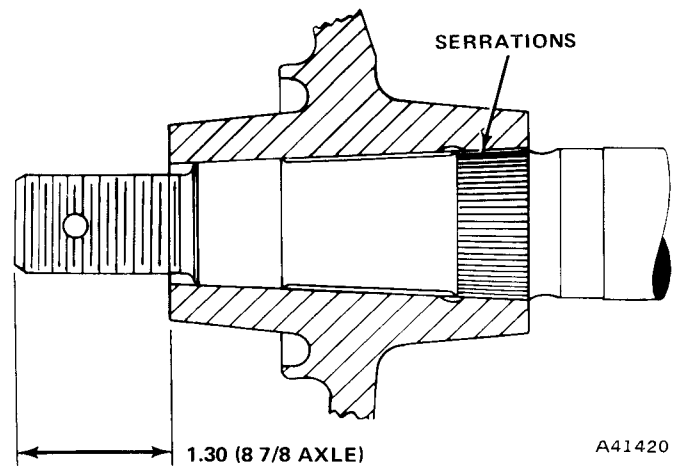

Fig. 10-18 Replacement Hub Installation Measurement (In Inches)
- (1) Align keyway in hub with axle shaft key.
- (2) Slide hub onto axle shaft as far as possible.
- (3) Install two well-lubricated thrust washers and axle shaft nut.
- (4) Install drum, drum retaining screws, and road wheel.
- (5) Lower vehicle onto wheels. Tighten axle shaft nut until distance from hub outer face to axle shaft outer end is 1.30 inches (fig. 10-18).
- (6) Remove axle shaft nut and one thrust washer.
- (7) Install axle shaft nut and tighten to 250 foot-pounds torque. If cotter key hole is not aligned, tighten nut to next castellation and install cotter key. Do not loosen nut to align cotter key hole.